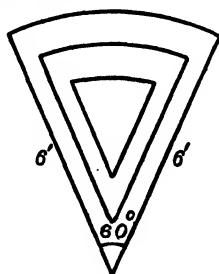

FIG. 29. FLOWER BED
2. A flower bed is in the form of a sector of a circle. The radius of the circle is 6 ft. and the angle of the sector is  $60^\circ$ , Fig. 29.